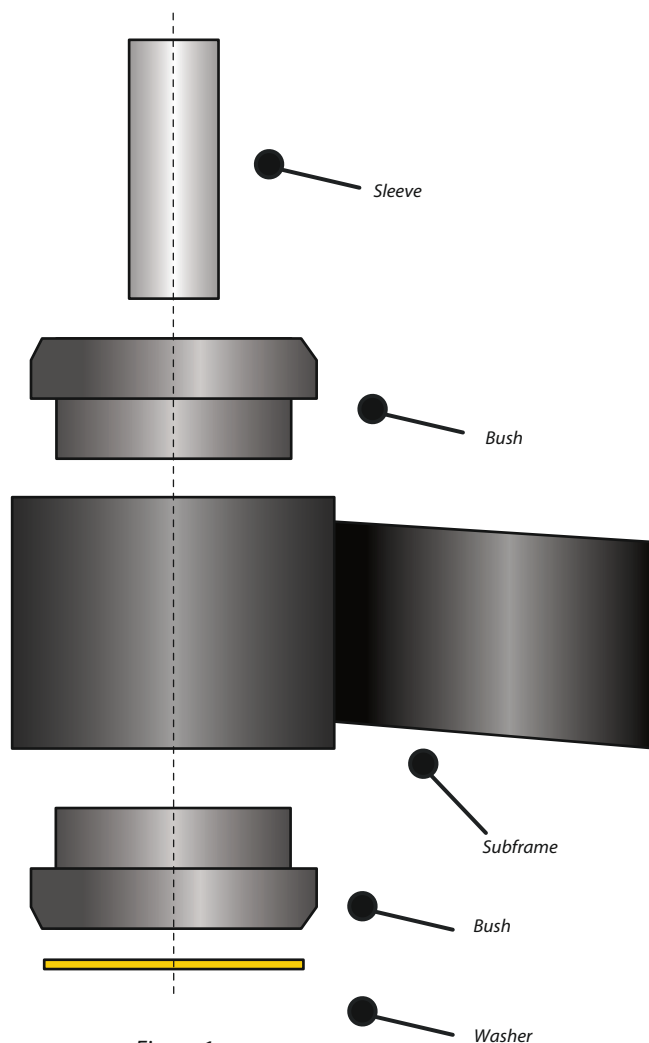

Figure 1
4. When refitting the arm back to the vehicle ensure to place a washer on the bottom side of the bush, as shown in figure 1. Then tension all hardware to manufacturers recommended torque settings